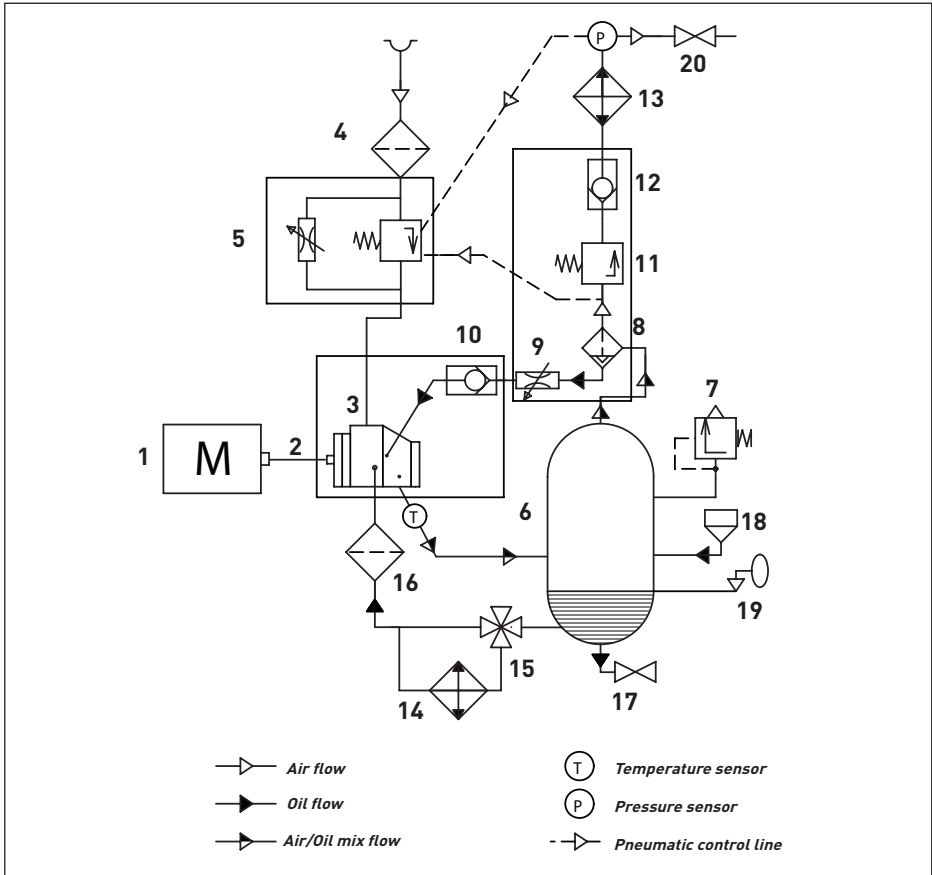

Fig. 2.3 Function diagram DV30-55
2.4 Functional description (see Fig. 2.3)